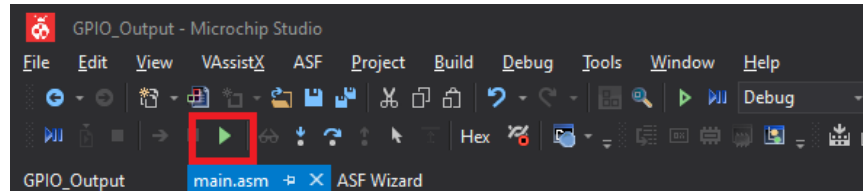

Figure 12: Starting Simulation.
- Start debugging the main program. To start debugging, select the *Start Debugging* icon shown in *Figure 12*, navigate to **Debug** → **Continue**, or simply press **F5** on your keyboard. The breakpoint pointed line of code will be highlighted, following a yellow arrow in the gray pane where the breakpoint resides. This indicates the next instruction to be executed.